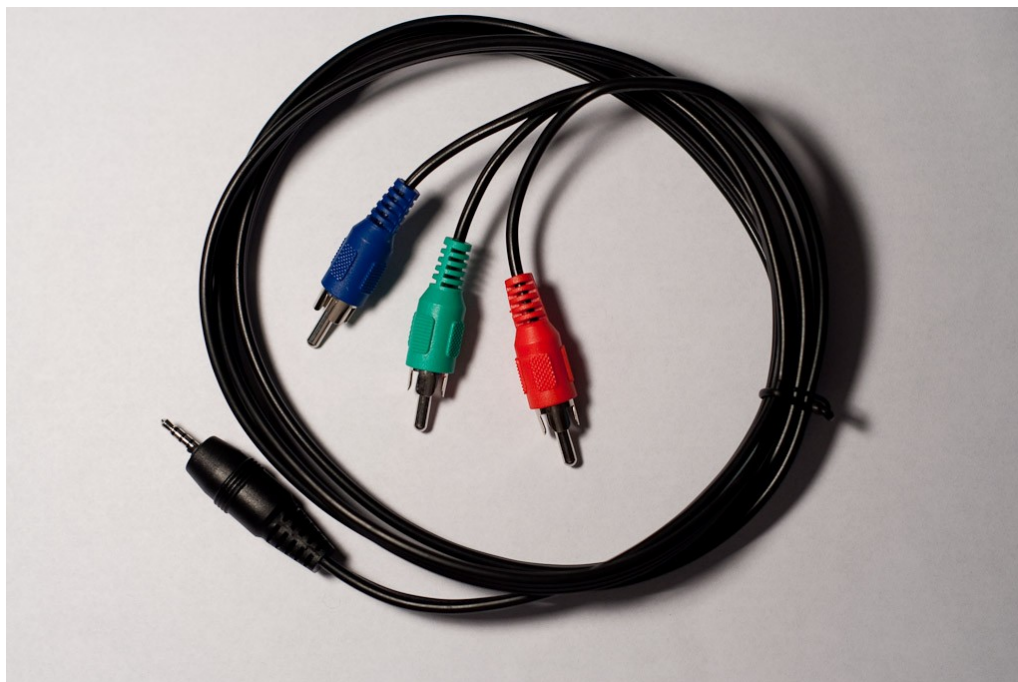

Figure 19. Component Video Adapter Cable
1.2.8 Component Video Adapter Cable, see Figure 19